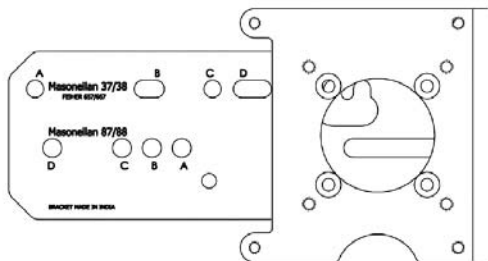

Figure 7 Reciprocating Valve Mounting Bracket
2. Mount the SVI II ESD reciprocating mounting bracket to the actuator using two (2) 5/16 - 18 UNC cap screws. The mounting location of the bracket depends on the size and stroke of the actuator. Refer to Figure 7 and Table 3 on page 32.
11. Adjust the turnbuckle until the hole in the SVI II ESD lever is aligned with the indicating hole in the bracket. Tighten both turnbuckle lock nuts. Refer to Figure 7.